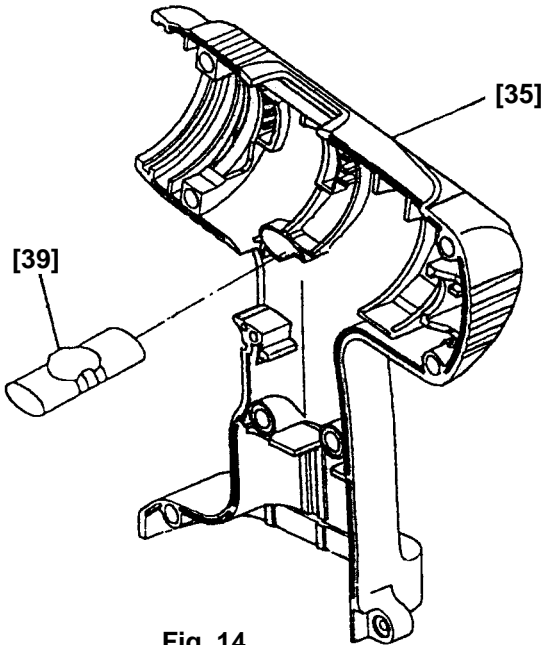

Fig. 14
(4) Installation of the assembly reassembled in step (3) into Housing (A). (B) Set [35]
(a) Install the Pushing Button [39] into Housing (B) [35]. (See Fig. 14.)